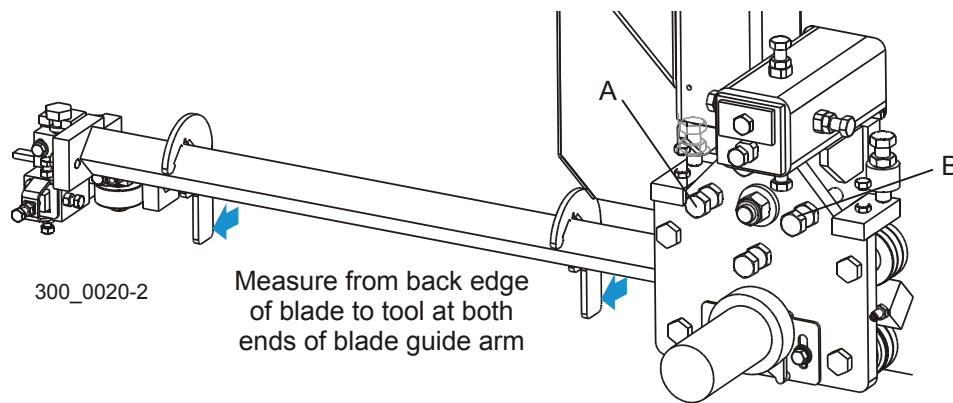

FIG. 7-23
See Figure 7-23. Attach the blade guide arm alignment tool to the blade guide arm, near the outer blade housing. Measure the distance from the back edge of the blade to the tool. Move the tool to the end of the arm near the blade guide. Measure again from the back edge of the blade to the tool. The two measurements at each end of the arm should be the same within 1/32". To adjust the horizontal tilt of the arm parallel to the blade, adjust the bolts (A & B) on the blade guide arm mounting plate. Loosen the jam nuts. Adjust bolt (A) out and bolt (B) in to move the arm away from the blade. Adjust bolt (B) out and bolt (A) in to move the arm toward the blade. Recheck the distance from the back edge of the blade to the tool at both ends of the arm. Readjust if necessary. Tighten the jam nuts.